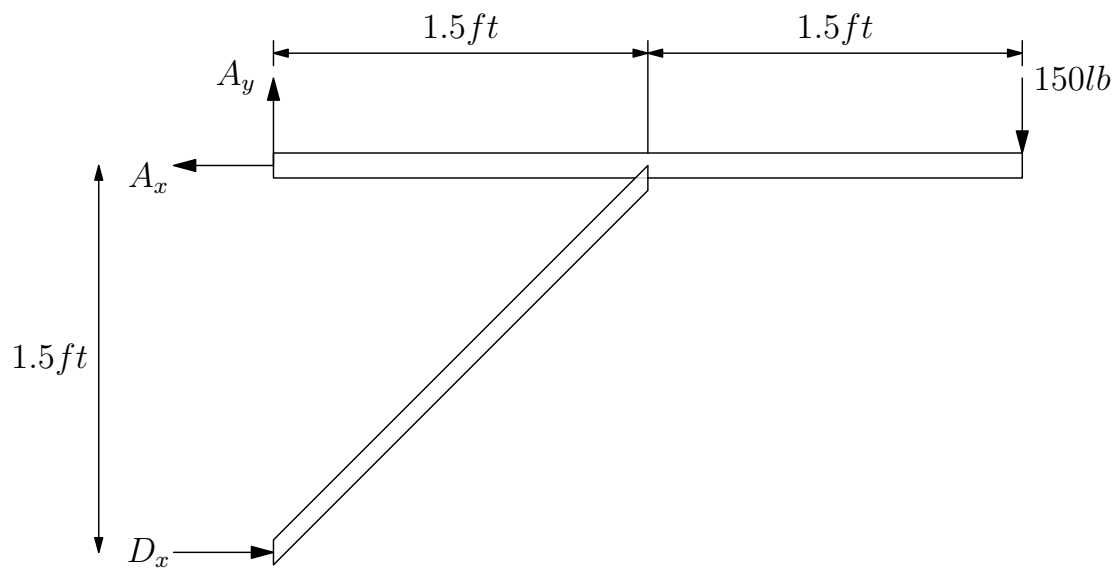

Figure 13
**Equations of Equilibrium:** Referring to the free-body diagram of the frame shown in Fig. 13,